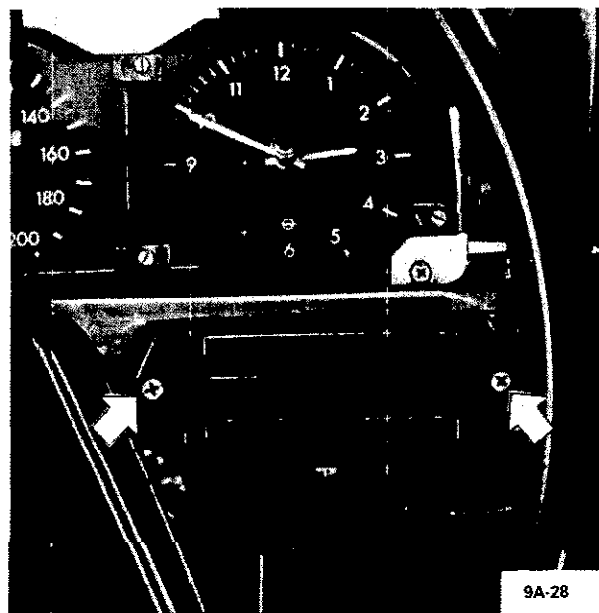

Figure 9A-40 Control Housing Attaching Screws
2. Remove two sheet metal screws for control housing attachment. See Figure 9A-40.
3. In engine compartment, detach bowden control wire from heater valve. See Figure 9A-41.